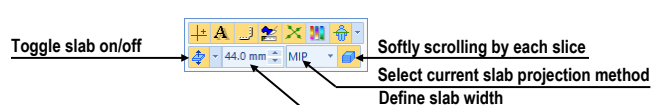

Figure 278 – Slab controls in view mini-toolbar
2. In the mini-toolbar displayed with view context menu (see Figure 278), the slab mode can be toggled on or off, the exact slab width can be set, and the projection algorithm can be selected.